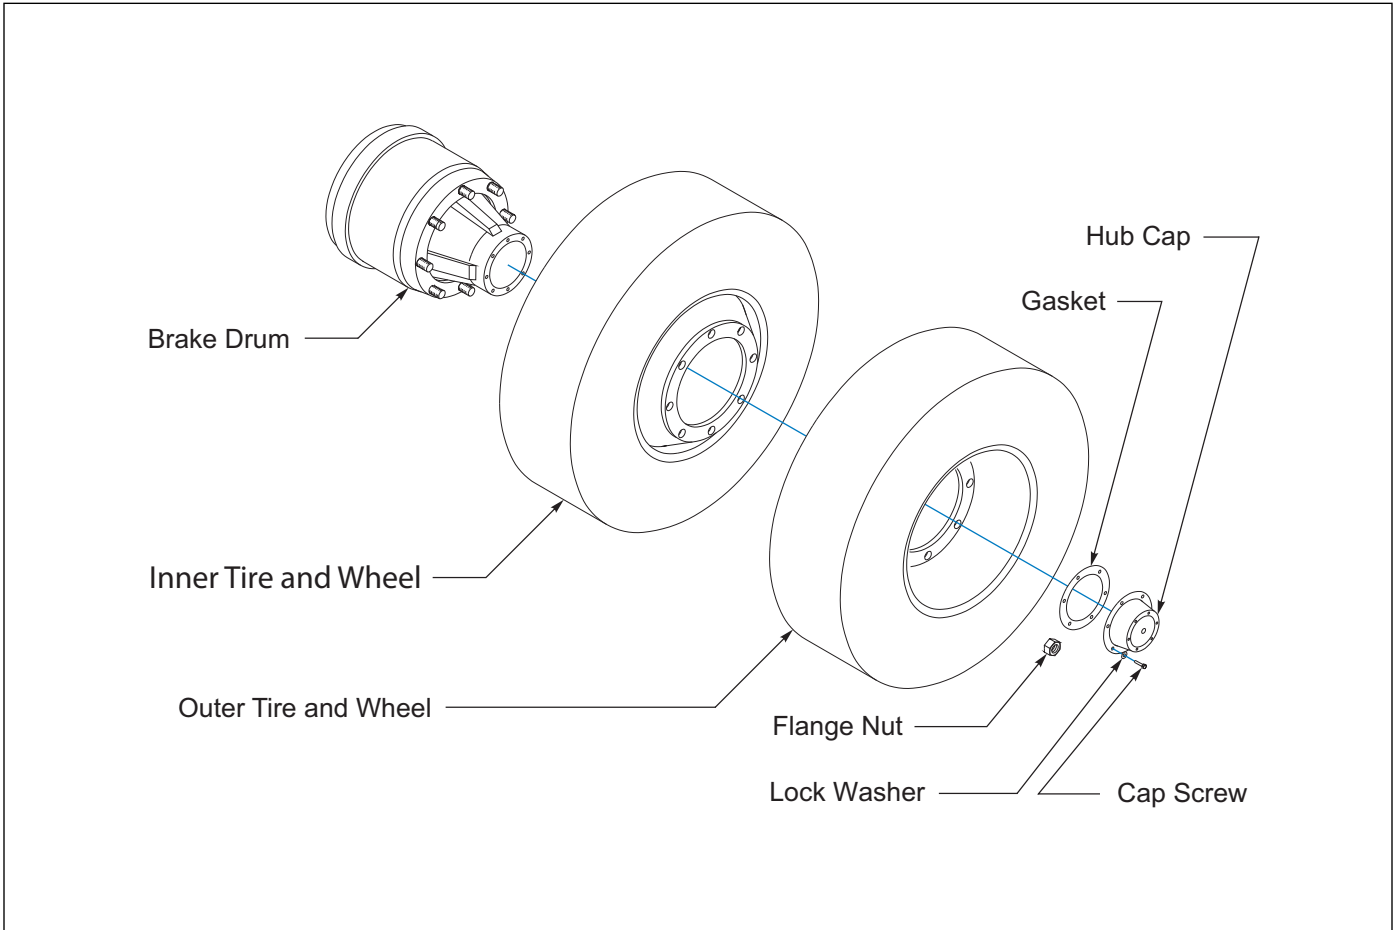

Figure 4-17: Mounting Tires and Wheels
6. For aluminum wheels, often a separator plate is used (**See Figure 4-17.**) The separator plate is approximately .040" thick. It is placed between the drum and the wheel, or between two wheels in dual applications. The separator plate is recommended in severe applications where corrosion and/or wear have been identified. Aluminum wheels benefit from use of the separator plate. Care must be exercised in centering the separator plate prior to torquing, and stud length must be checked as each plate is approximately .040" thick.
1. Make sure that all mounting surfaces are clean and free of rust, dirt or paint. A wire brush may be used to clean these surfaces (See Figure 4-17.)